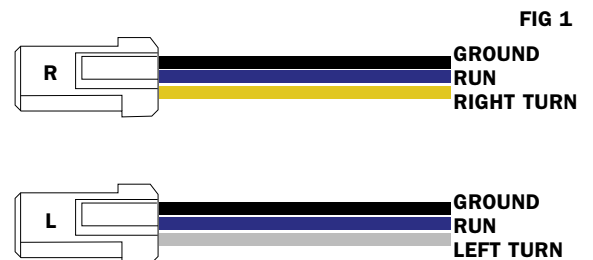

FIG 1
**STEP 8** Refer to FIG 1. Locate new turn signals (sold separately). Determine which signal is the left and right. Splice the Left and Right Pigtails to their corresponding lights.